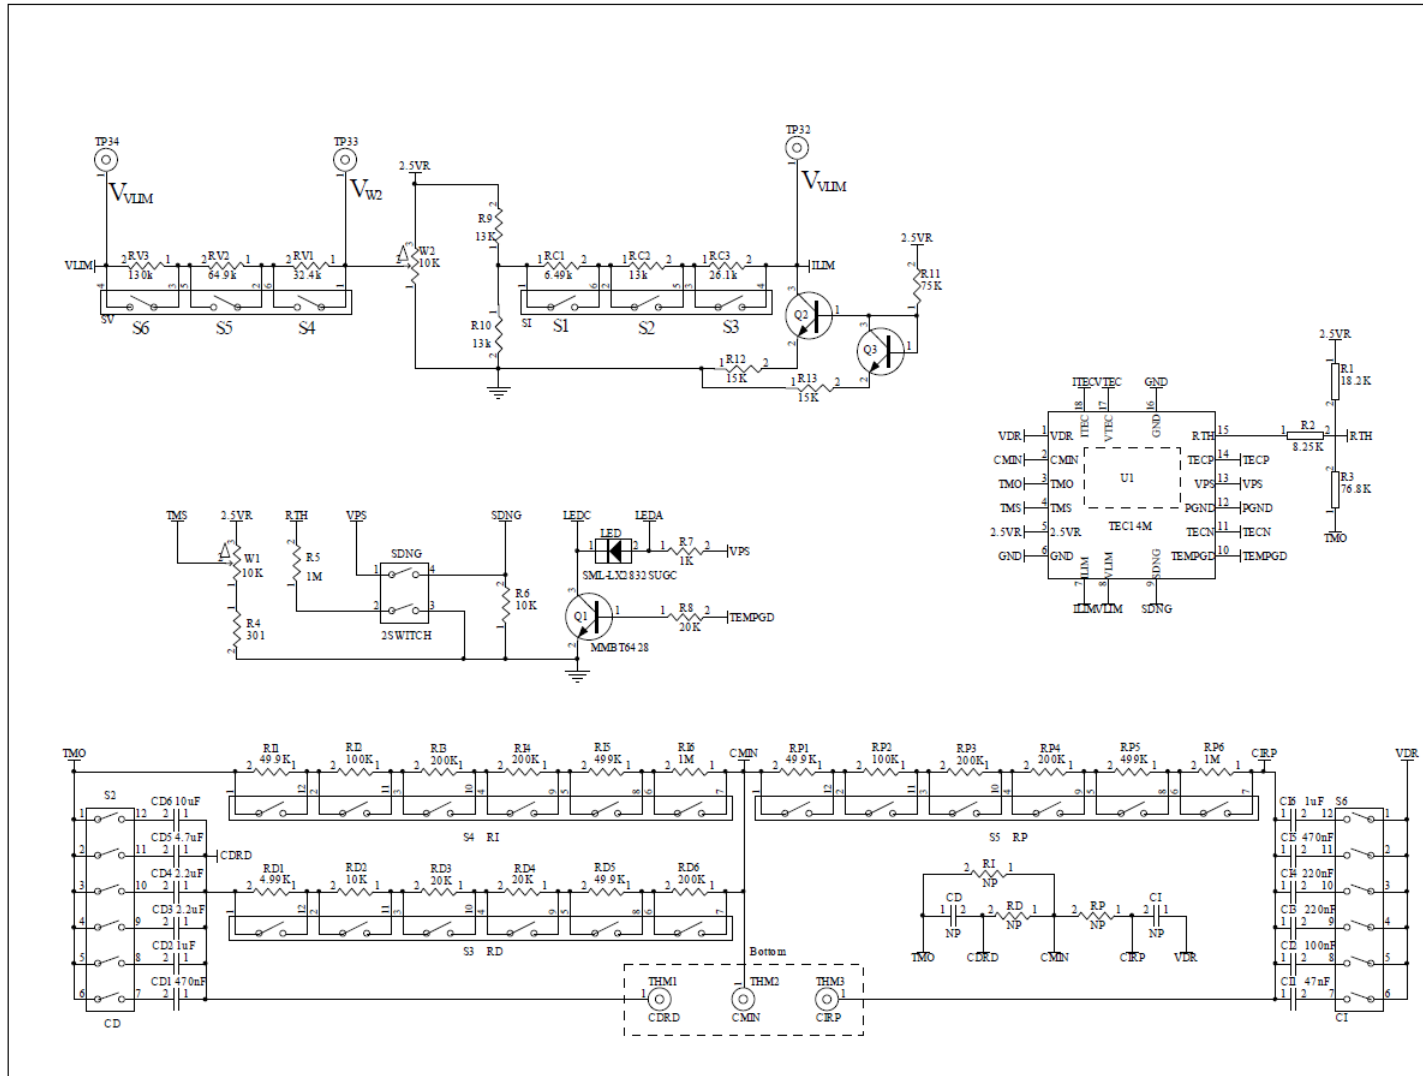

Figure 7. Schematic of TEC Controller Evaluation Board TEC14MEV1.0
The schematic is shown in Figure 7.
- h. The evaluation schematic is given in Figure 7.